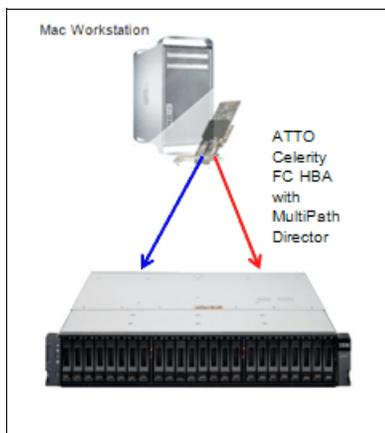

Figure 2-15 MacOS support with direct attached DS5000
- ▶ Direct attached MacOS configuration: This configuration, shown in Figure 2-15, offers path failover through the dual port HBA or the single port HBA cards in the MacOS host.